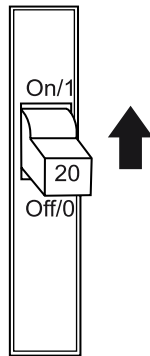

Figure 62. GFCI Circuit Breaker
2. Place a **GFCI circuit breaker** (Figure 62) in the **ON** position.